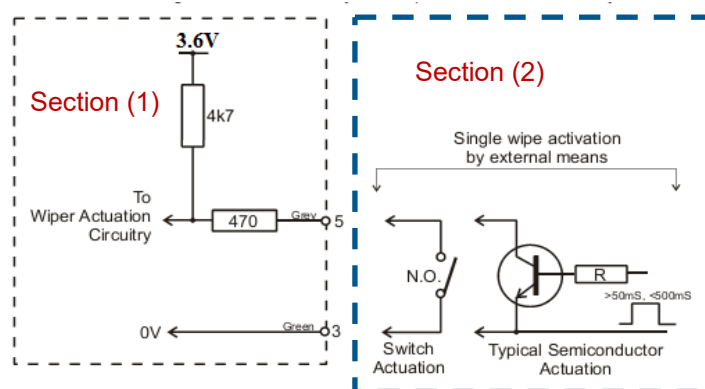

Figure 7.S: Recommended use of triggering optical wiper
- Figure 7.S: #1) for internal characteristic for the calibration wire/wiper wire.
- Figure 7.S: #2) on recommended use of the wiper activation wire using a relay output or using a Negative Positive Negative (NPN) transistor.